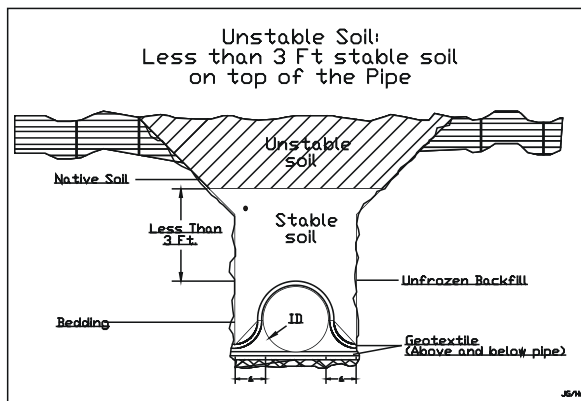

Figure 3 - Geotextile installation
C. **Stabilization of the soil** can be achieved with a filter cloth such as Geotex®. This material has proven useful to stabilize the ditch bottom in boggy, wet conditions. Geotextile can be placed below the pipe to reduce sinking and above the pipe to stabilize backfill (Figure 3).